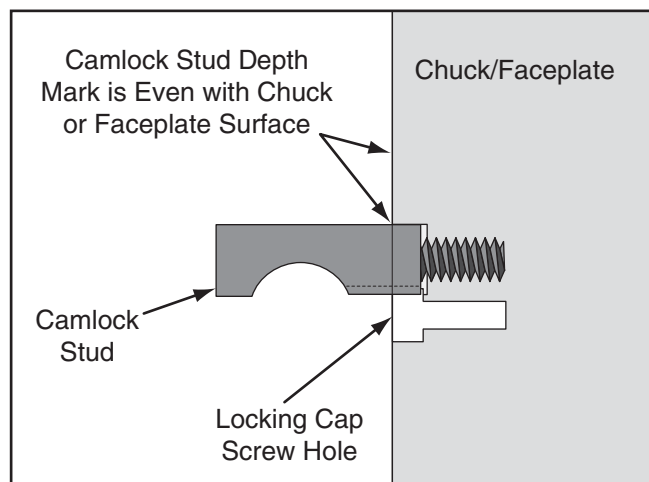

Figure 36. Initial position adjustment of the camlock stud.
3. Thread each camlock stud into the chuck or faceplate until the depth mark on the stud (see **Figure 35**) is even with the surface of the chuck or faceplate and the curved indent of the side of the stud faces the locking cap screw hole, as illustrated in **Figure 36**. This is an initial adjustment.